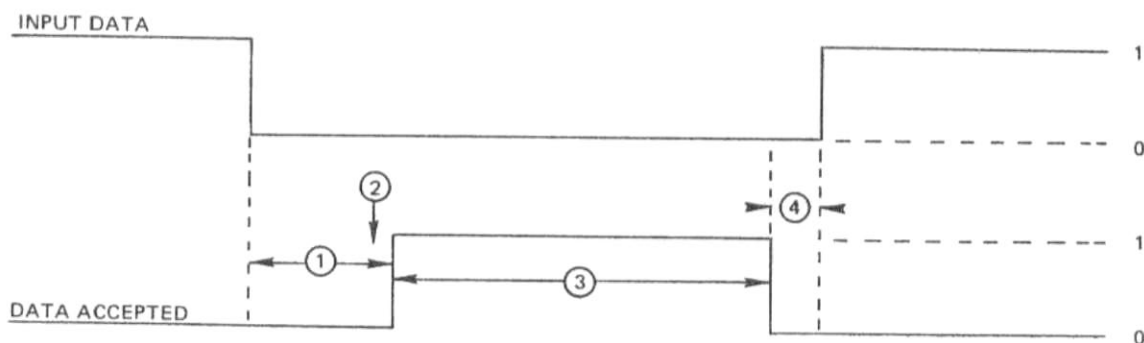

Figure 07-1. Data Entry Timing
Figure 07-1 shows the data entry timing sequence. The input data line debounce time (1) is typically 16 to 18 ms. Data is latched into the counter 48 μ s before the data accept line goes high (2). As soon as the data accept line goes high, all data (except remote enable) can be removed. The data accept line stays high while the counter processes the input data. This process is data dependent, and can take from 1 to 140 ms (3). To prevent the counter from setting the poll mode, the input data line must go high within 100 μ s after the data accept line goes low (4). If poll mode is set, the next data read cycle will occur between 0 and 100 ms after the high to low transition of the data accept line. After this first data read cycle, all subsequent data read cycles will occur at 100 ms intervals.